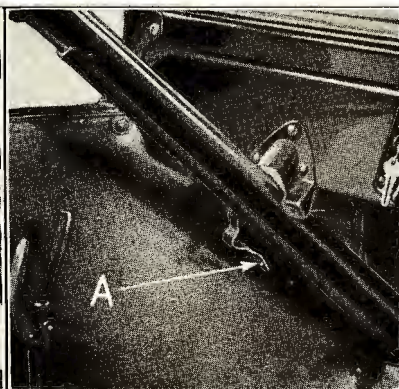

Fig. 15
- (f) Swing steering gear bracket cap to one side by removing one of the two steering gear bracket bolts and loosening the other bolt (See "A" Fig. 15).